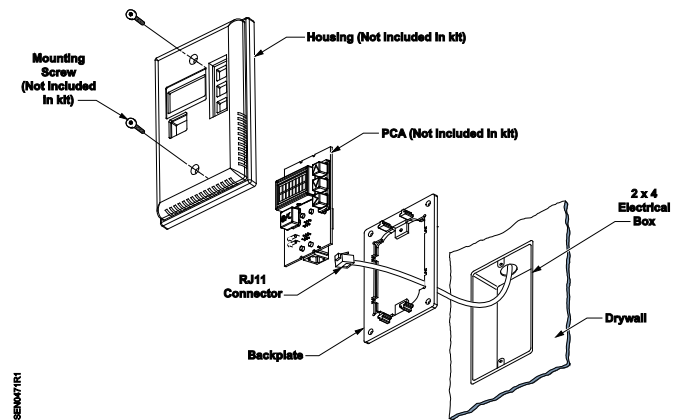

Figure 2. 2" x 4" Electrical Box Mounting.
4. Assemble the mounting screws through the housing and align with the threaded tab of the 2" x 4" box and tighten in place. See Figure 2.